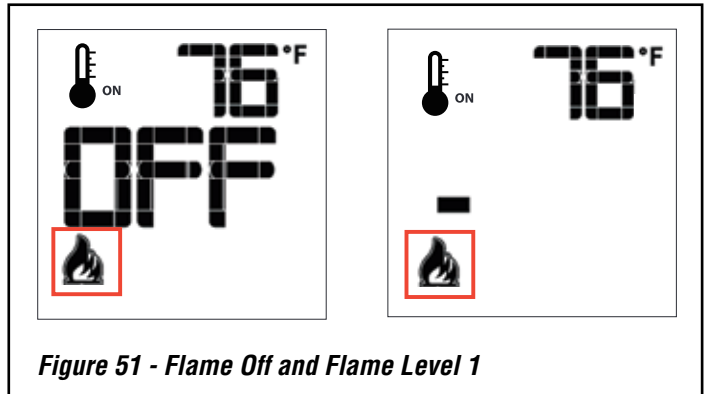

Figure 51 - Flame Off and Flame Level 1
When you turn on the fireplace it starts on high. The proflame 2 has six (6) flame levels. Each time you press the Down Arrow Key once the flame height will reduce by one step (**Figure 51**).